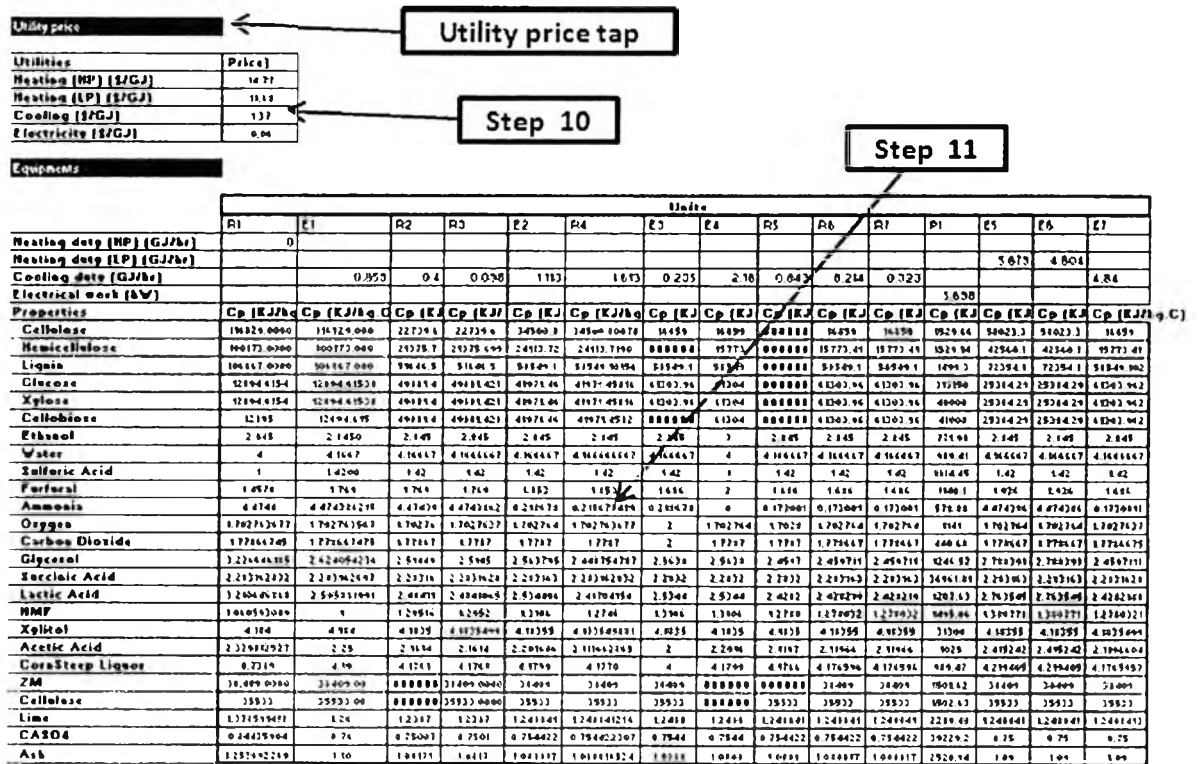

Figure B.12: Steps to perform sustainability analysis (Continued)
Step 10: Look for “Utility price tap”, insert the prices for all the utilities specified in the table (Figure B.12).